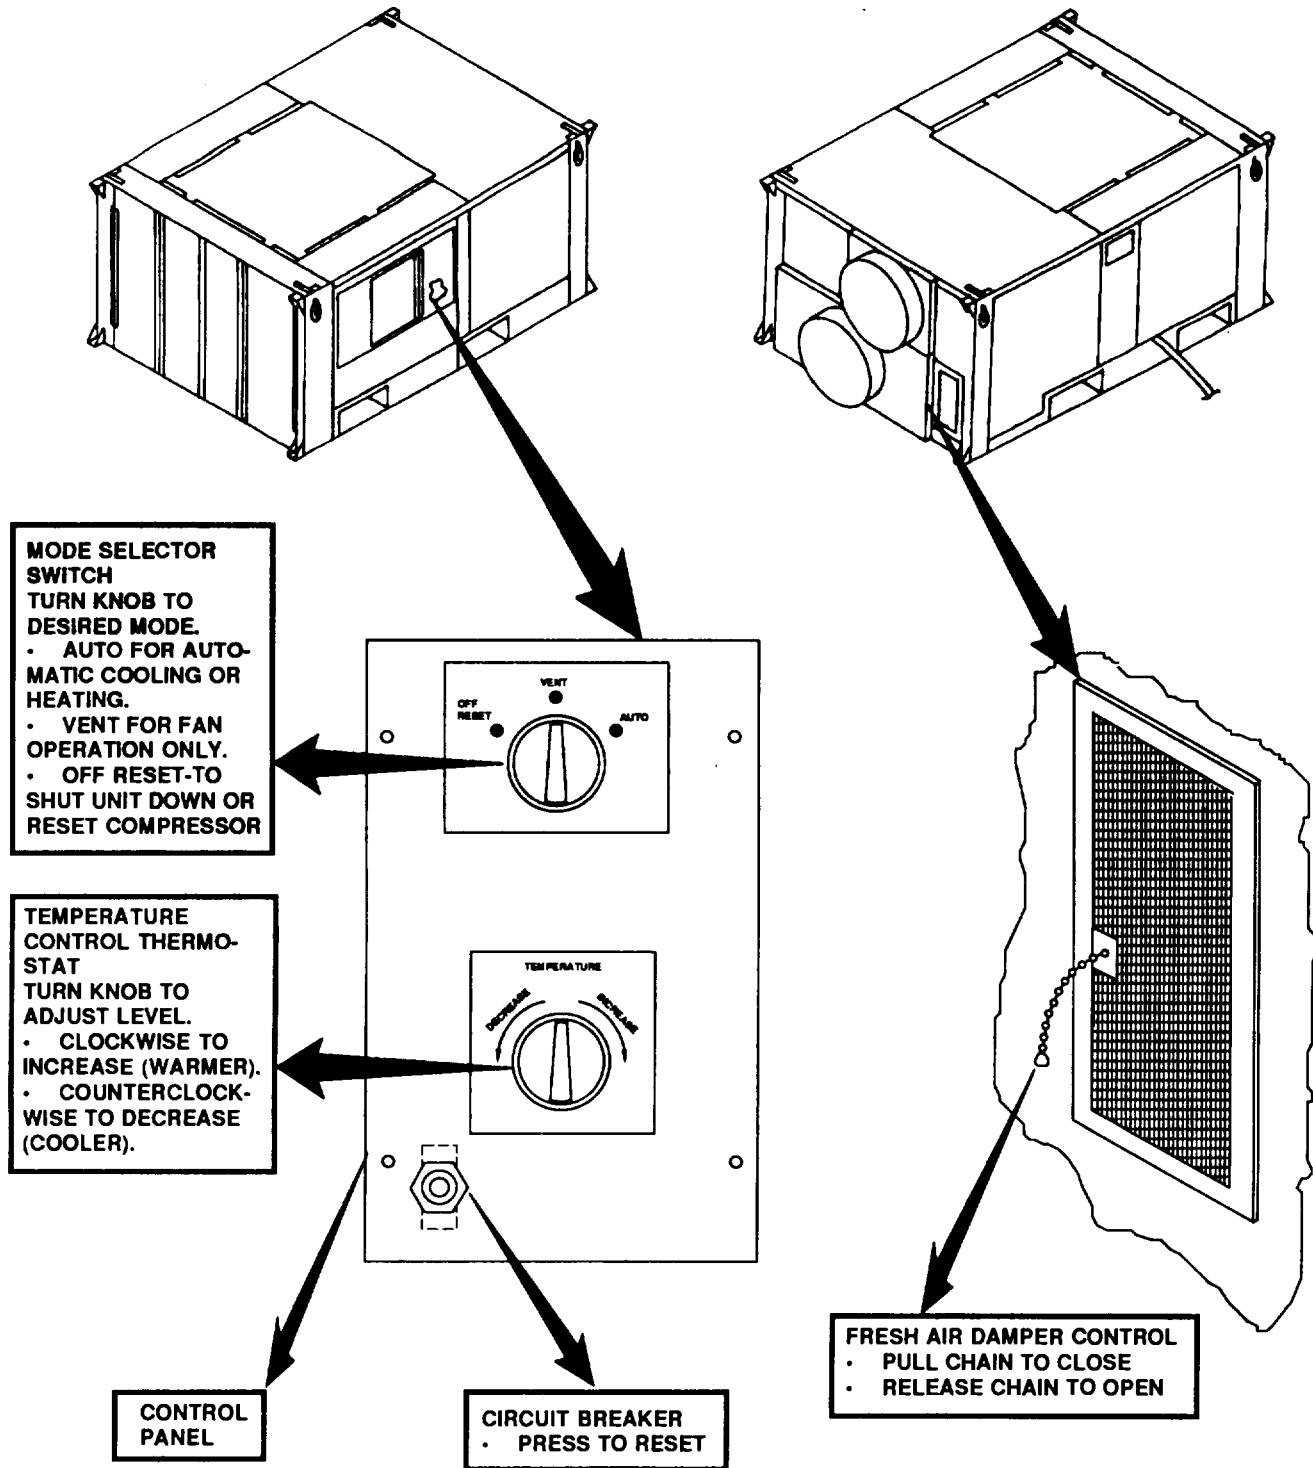

Figure 2-1. Operator's Controls
d. **EVAPORATOR AIRFLOW.** From the conditioned space, the evaporator blower pulls air through a filter and across the evaporator coil, and delivers the filtered, cooled air into the conditioned space. A manually-operated damper (figure 2-1) can be adjusted to admit fresh air upstream from the blower.
2-2. OPERATOR'S CONTROLS. See figure 2-1 for a general description of the controls that an operator will normally be concerned with. For specific operating instructions, see Sections III and IV of this chapter.